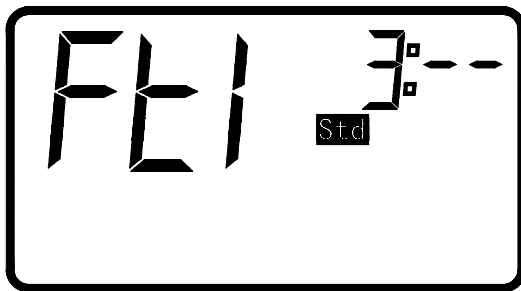

Fig. 9: The last time for filter cycle is 3hrs
4. Under the status of “continuous working period of filter cycle setting”, press “” key to change the period, the setting range is 1-11 hours (Fig. 9).
Press and hold “**M**” key to enter setting mode, and continuously press “**M**” key to go into temperature fine tuning mode(Fig. 9). At this moment, the user could click on “**▼**” or “**▲**” to change the temperature in small range, the ADJ(adjusting) range is -3~-7°F.